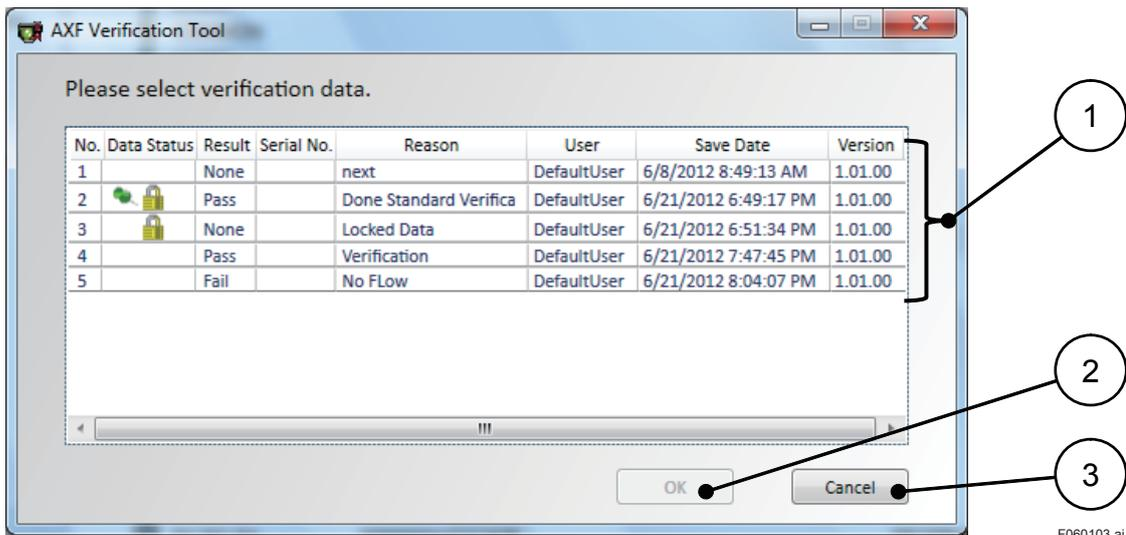

Figure 6.1.3 "Select Verification Data" Dialog
- 2) After clicking the "Load" icon, **Figure 6.1.3** is displayed. Select the preferred data from "Data list (1)", and then click "OK (2)".